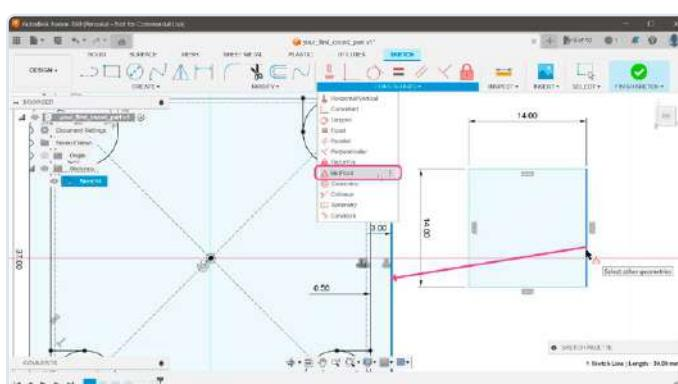

Figure 17: Centering the rectangle with the MidPoint function.
- 17) To move the rectangle to the correct position, select the *MidPoint* (**Figure 17**) constraint from the *Constraint* group in the toolbar. First, click the right line of the newly created rectangle. Next, click the right line of the wall of the enclosure. This will ensure those two lines are center-aligned and will move the rectangle to the